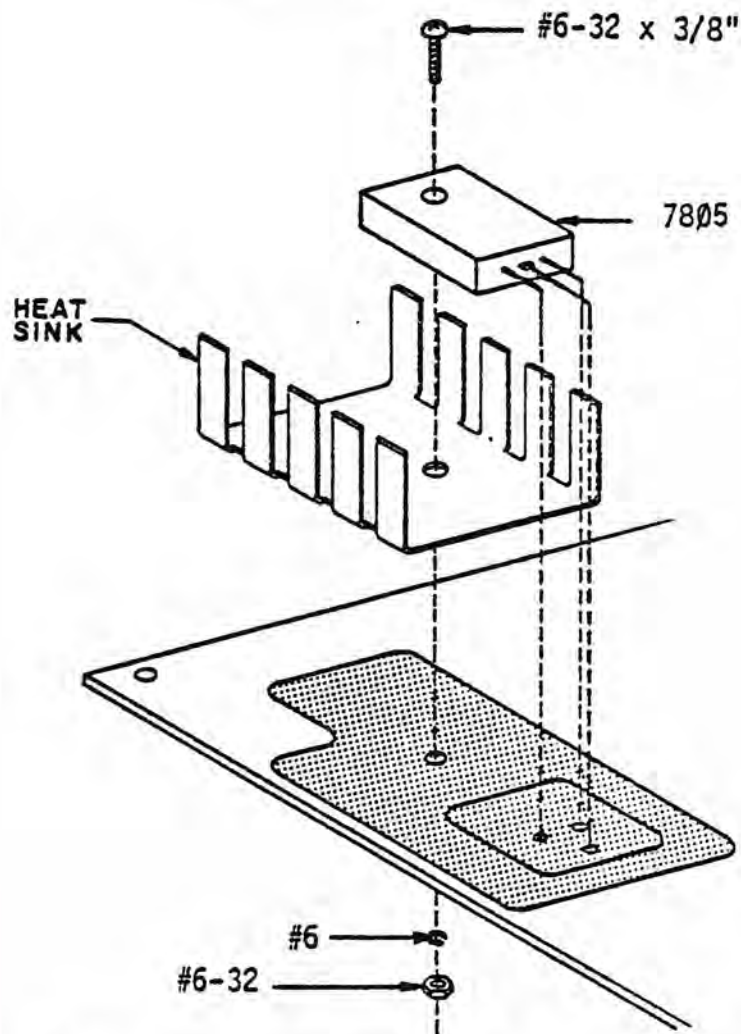

Figure 5-31b. Voltage Regulator/Heat Sink Orientation
4. Referring to Figure 5-31b set the voltage regulator on the heat sink, inserting the leads in the proper holes on the board. Secure both in place with a #6-32 x 3/8" screw, a #6-32 nut, and a #6 lockwasher.